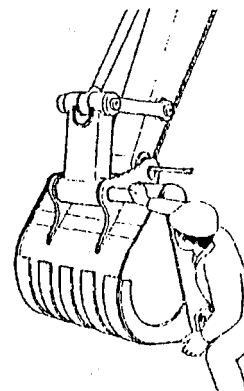

Fig. 10 How to install the bucket
3.2 INSTALLING BUCKET (SEE FIG. 10)